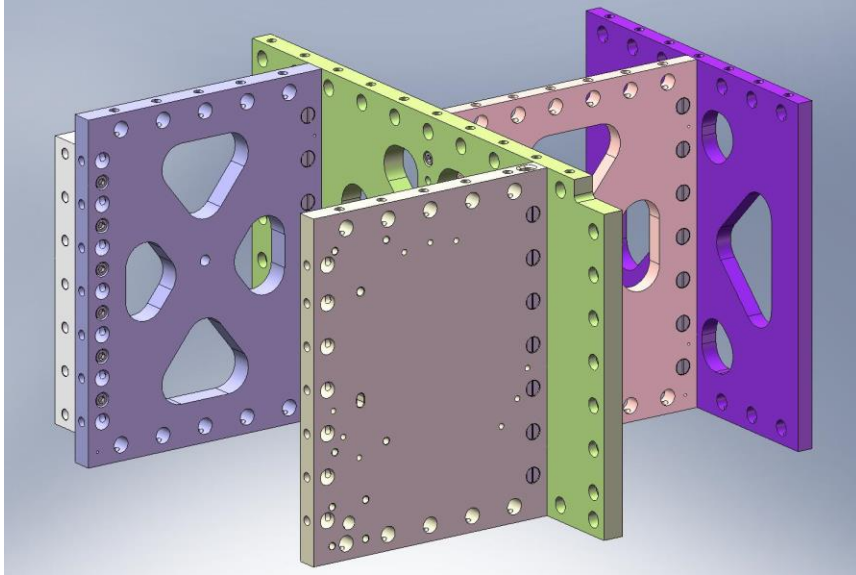

Figure 3.34. 90 Deg Outer Wall Bracket mounted to Pitchfork Assembly. The screws for the Bracket are not torqued until later in the assembly of Stage 1.
- Screw **Outer Wall, Bracket 90** (D071061) onto side of **GS-13 Out 2 Rib** (D071056), in orientation shown in Figure 3.34. Snug screws, but do not torque, yet.